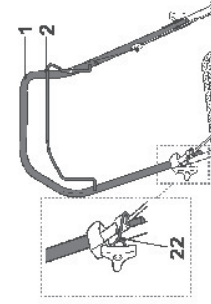
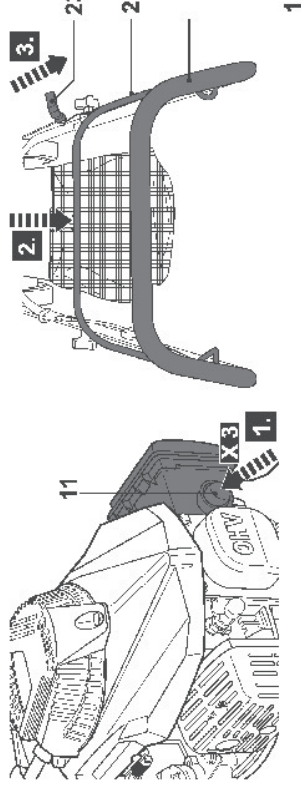

Fig. 10
Fig. 13
3. Fit the recoil starter handle into the rope guide (22) on the right hand side of the upper handle (3) during operation (Fig. 10). Do not remove the rope from the rope guide when starting the engine.
1. Press the primer (11) three times (Fig. 13, step 1).
2. Stand behind the handle (1).
3. Pull the brake bar (2) against the handle (1) and hold it in position with one hand (Fig. 13, step 2).
4. Pull the recoil starter handle (23) lightly until you feel resistance then pull it rapidly. Do it again until the engine starts (Fig. 13, step 3). Fit the recoil starter handle into the rope guide (22) on the right hand side of the upper handle (3) during operation (Fig. 10).